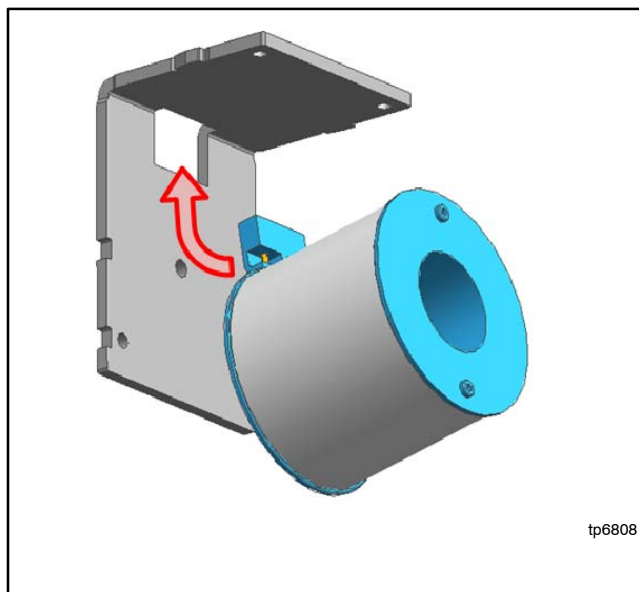

Figure 7-58 Coil Terminal In Steel Frame
1. Insert the terminal block section of the coil into the opening in the steel frame. See Figure 7-58.